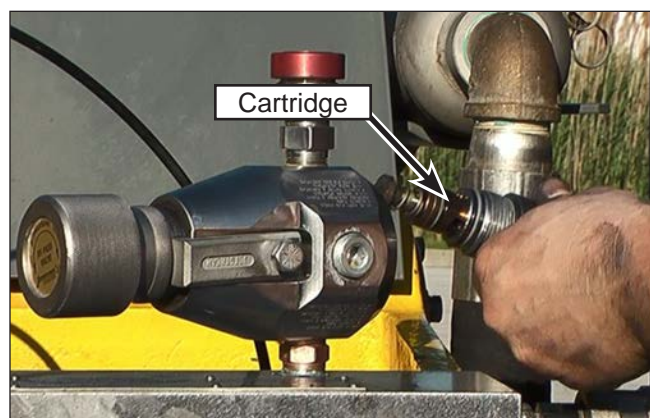

Figure 95: Cartridge Removal.
3. Pull the cartridge (Figure 95) from the housing.